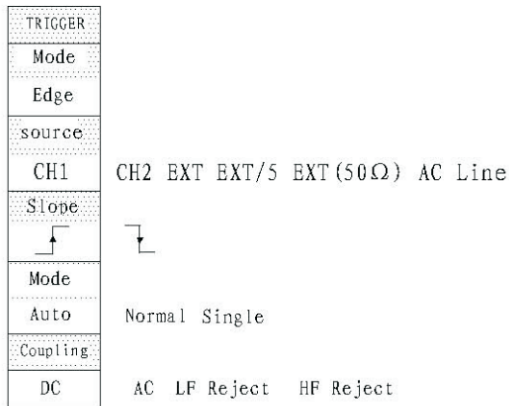

Figure 2-12
- a. Edge: Edge trigger can be used in analog and digital circuit analysis. An edge trigger occurs when the trigger input passes through a specified voltage level in the specified slope direction (rising or falling). See Fig. 2-12.